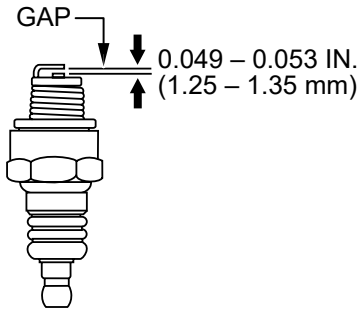

Figure 68. Spark Plug Gap Adjustment
4. Measure the spark plug electrode gap (Figure 68) with a wire-type feeler gauge. If needed, adjust the gap to 0.049–0.053 in. (1.25–1.35 mm) by carefully bending the side electrode.